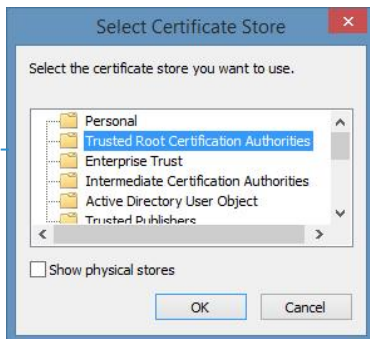

Figure 87: select certificate store
8. **Browse to Trusted Root Certification Authorities** and click **OK** (see Figure 87).